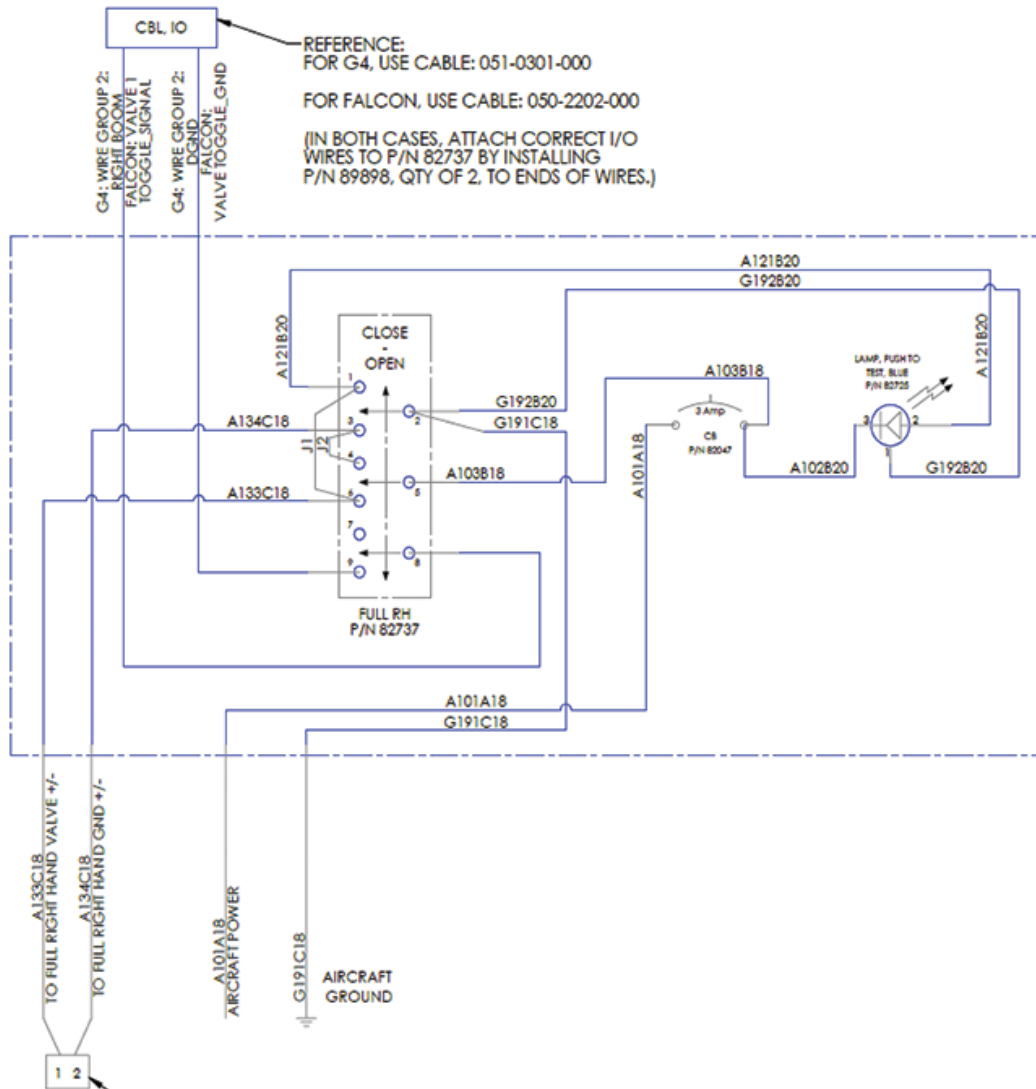

Figure 4-1: Wiring Schematic for the Satloc G4 and Satloc Falcon to wire PN 25053 - Right-Hand Boom Shut-Off Control Panel to GPS System
2. If the Transland Boom-Shut Control Panel is not installed, choose a mounting location in the cockpit for item 16 (PN 25053). The optimal position to mount item 16 is the cockpit wall on the left-hand side. Ensure all cockpit switches are easily accessible to the pilot and there is room for wiring.
7. If using only the Right-Hand Boom Shut-Off, refer to Figure 4-1.
9. Crimp ring terminals (PN 89898) to the wires on the IO cable, as shown on Figure 4-1.
10. Connect ring terminals to the full right-hand switch (PN 82737, a sub-component of part 16) as shown on Figure 4-1.
18. Install the male and female housing to the ends of the ran wire according to Figure 4-1. Items 3, 4, and 5 are for male housing. Items 6, 7, and 8 are for female housing.
19. Crimp pins and sockets to the correct wire ends as shown in Figure 4-1. Use CP-463 or equivalent crimp tooling.